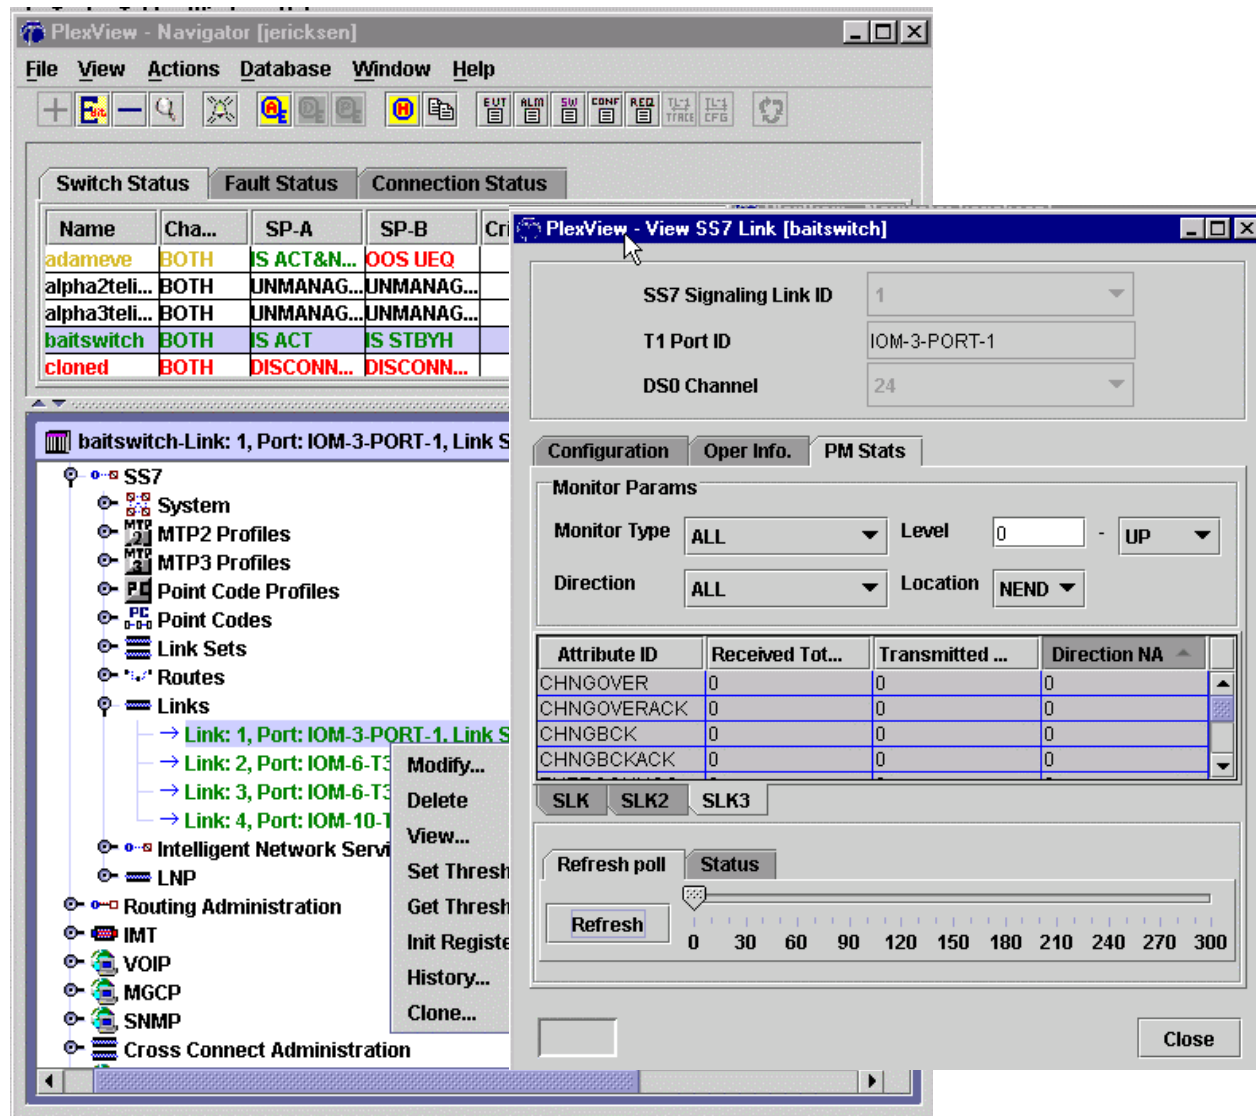

Figure 3. Signaling Link Layer 3 PM Status
11. Retrieve current and historical performance data for signaling link layer 3. Double-click the switch, *SS7* and *Links*. Right-click the *link*, click *View and* then select *PM Stats* tab at the top and the *SLK3* tab toward the bottom. See Figure 3.
13. Clear or initialize the signaling link layer 3 counters. Double-click the switch, *SS7* and *Links*. Right-click the *link*, click *Modify* and then select *PM Stats* tab at the top and the *SLK3* tab toward the bottom. Make desired changes and then click *Ok* or *Apply*. See Figure 3.